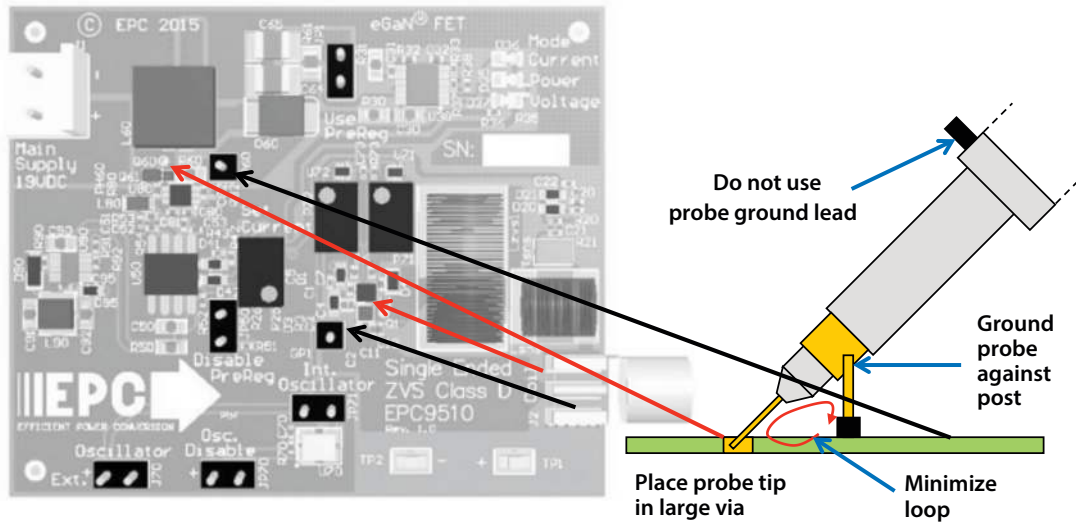

Figure 9: Proper Measurement of the Switch Nodes using the hole and ground post
3. Connect a LOW capacitance oscilloscope probe to the probe-hole of the half-bridge to be set and lean against the ground post as shown in Figure 9.
1. When measuring the high frequency content switch-node (Source Coil Voltage), care must be taken to avoid long ground leads. An oscilloscope probe connection (preferred method) has been built into the board to simplify the measurement of the Source Coil voltage (shown in Figure 9).